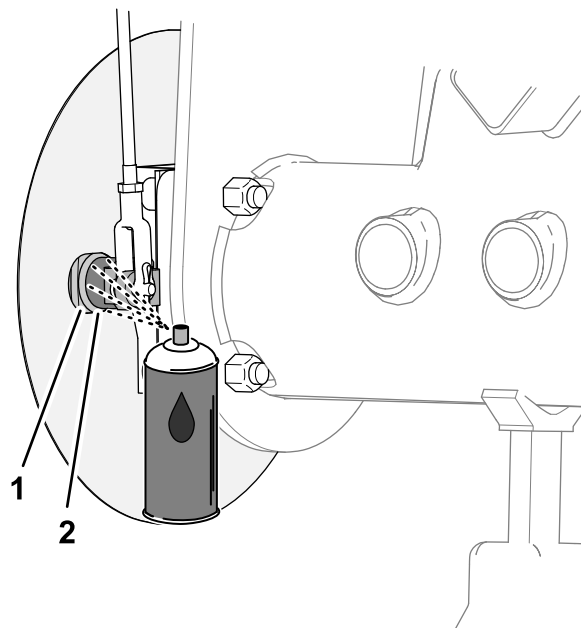
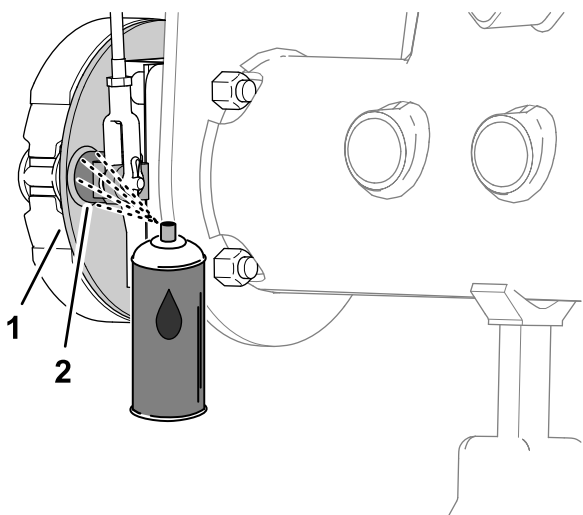

Figure 70
Figure 69
1. At the inboard side of the brake-backing plate (machines without the optional wheel-rim grass shield) or the wheel shield (machines with the optional wheel-rim grass shield), spray penetrating oil between the brake cam shaft and the backing plate (Figure 69 or Figure 70).